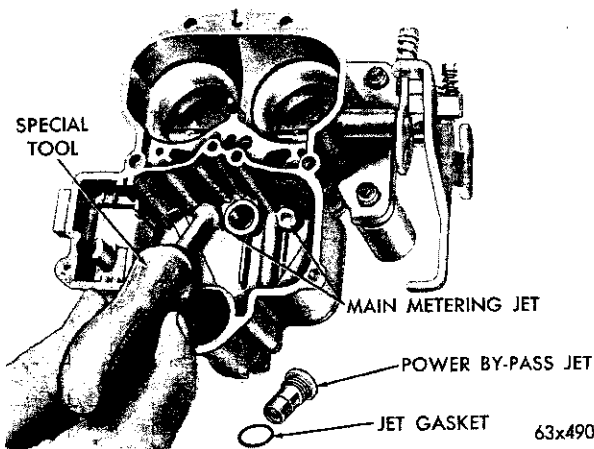

Fig. 8—Removing or Installing the Main Metering Jet
(6) Using Tool T109-173, remove the two main metering jets, as shown in Figure 8.
(7) Remove the two air horn screws used to hold the main and throttle bodies together. Separate the throttle and main bodies.
(1) Place a new gasket on the throttle body, then install main body. Install two short screws to secure.
(2) Install the main metering jets in the main body. Tighten securely, using Tool T109-173 (Fig. 8).